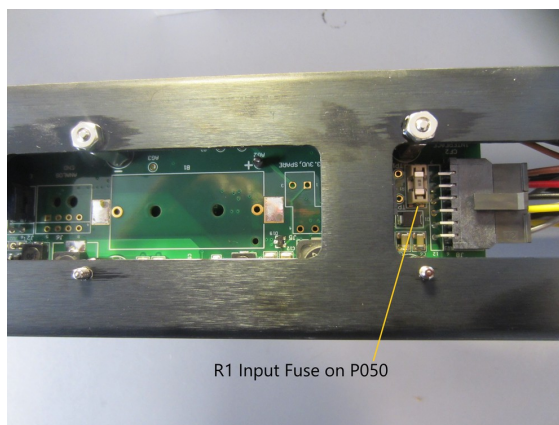

Figure 47: R1 fuse on the Power Supply board (P050).
2. If that fuse is functional, then check the 1 A fuse, labelled "R1", that is located on the underside of the power supply board (Figure 47).